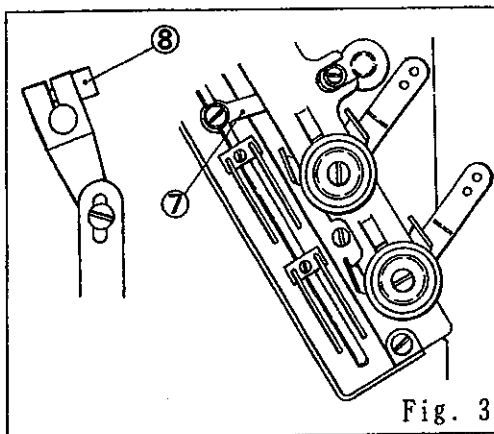

Fig. 3
Loosen the screw^⑦ and adjust so that the thread clamp rubber^⑥ and the wiper^① can hold needle thread lightly when the wiper^① returns to its extreme right. (Fig. 3)